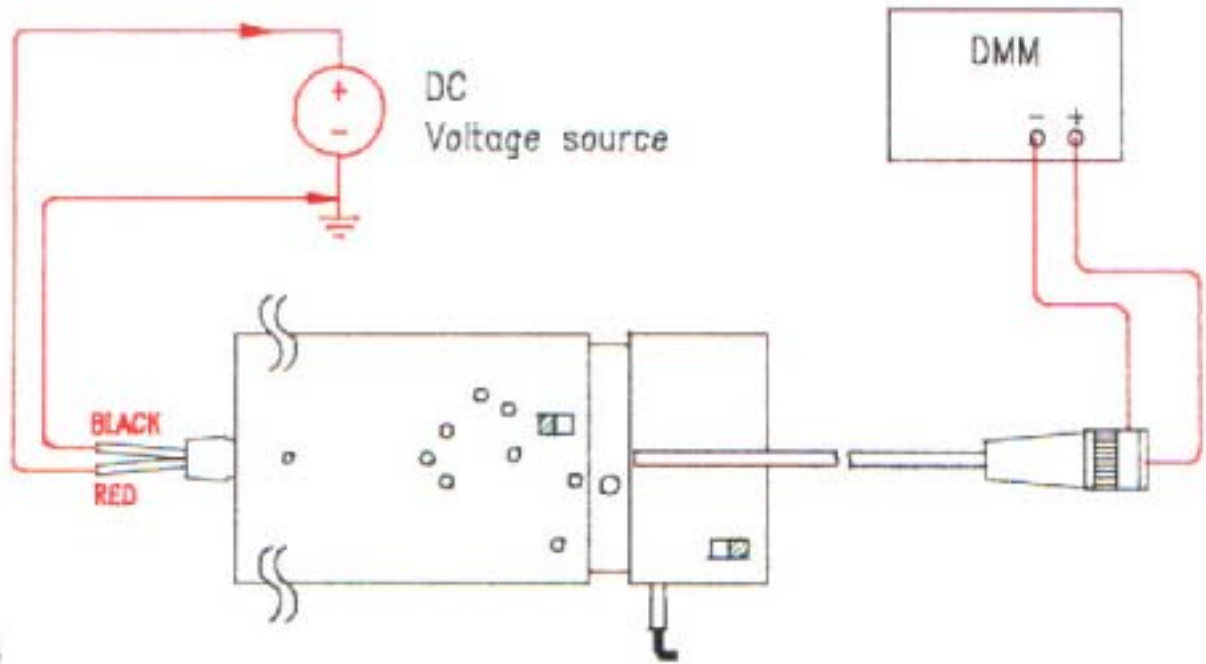

Fig. 11
- a. Referring to Fig. 11, connect output BNC to a DMM.